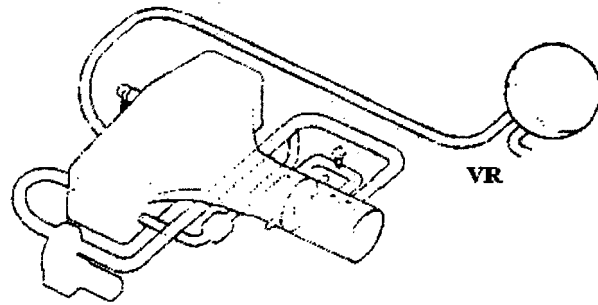

Fig.2.13 Ventilation system vacuum supply
This vacuum comes from a connection to the rear of the plenum chamber and is stored in a reservoir (VR) fig.2.13, mounted ON the N/S bulkhead.